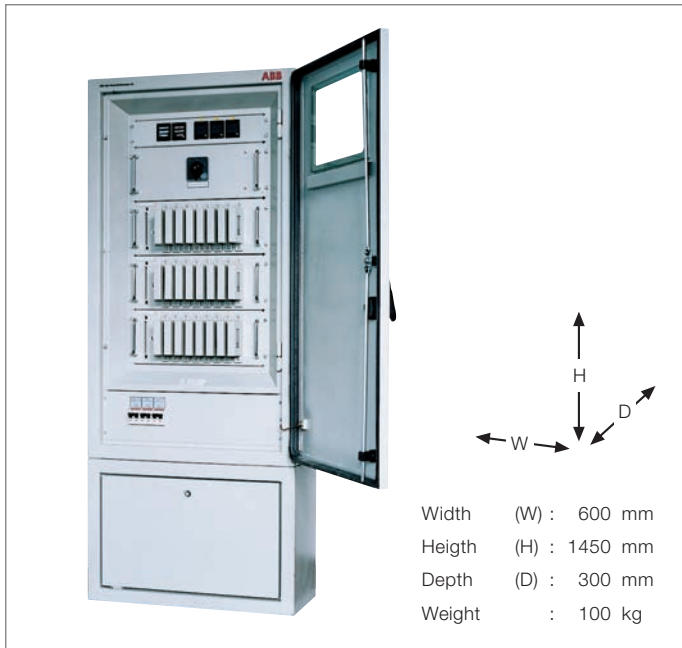

Figure 3: Measuring and tripping device
The pulse transformer transmits the tripping pulse from the tripping device (Figure 3) to the charge 10 in the I_s-limiter insert, and at the same time ensures electrical isolation of the tripping device from the charge which is at system potential.
The measuring and tripping device is accommodated in a sheet steel control cabinet (Figure 3) or in the low voltage compartment of the I_s -limiter panel.
- one measuring and tripping device (Figure 3).
The measuring and tripping device is mounted in the low voltage compartment. The I_S-limiter (fixed mounted) for 36 kV/40.5 kV is available in a metal-enclosed switchgear panel. Same as for loose equipment supply, the measuring and tripping device is installed in a separate sheet steel cabinet (Figure 3).